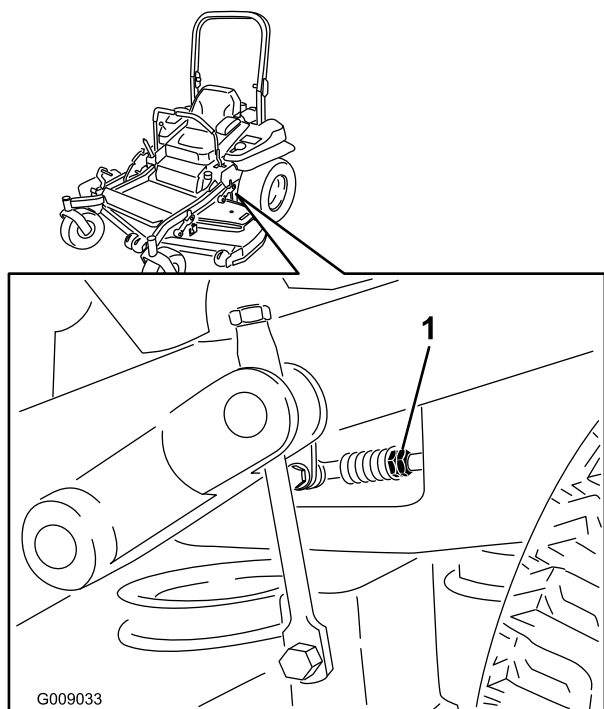

Figure 76
7. Bring the motion control levers into the neutral position. Adjust pump control rod lengths by rotating the double nuts on the rod in the appropriate direction until the wheels slightly creep in reverse (Figure 76). Move the motion control levers to the reverse position and while applying slight pressure to the lever allow the reverse indicator springs to bring the levers back to neutral. The wheels must stop turning or slightly creep in reverse.